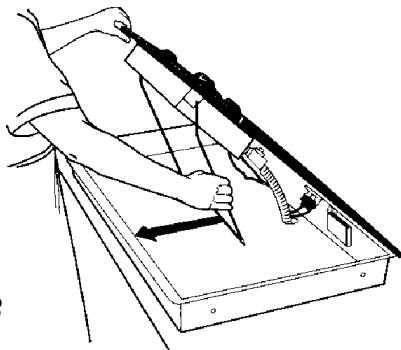

Figure 3-3
6. Raise the maintop and position the support rod against the front of the burner box (see Figure 3-3).